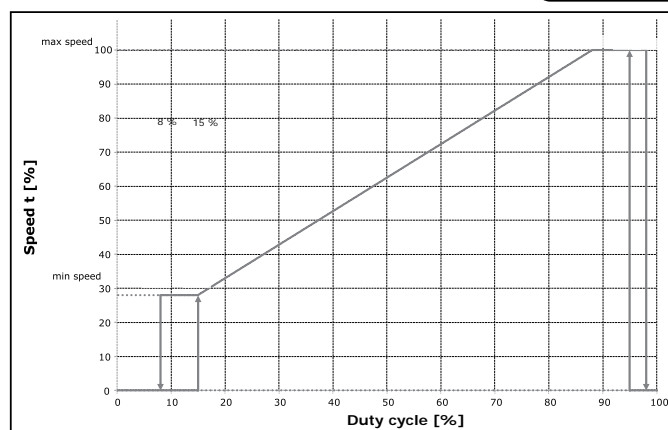

Figure 2
- Duty cycle of 15-88% yields fan speed of 28-100% (See Figure 2, below).